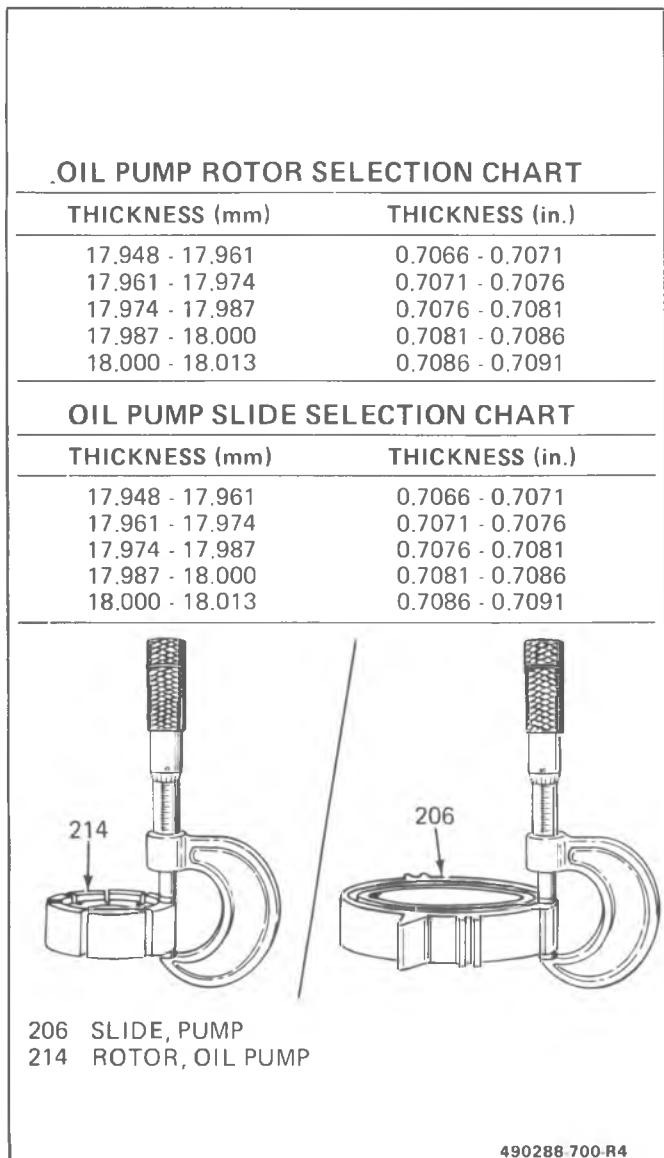

Figure 129 Oil Pump Rotor and Slide Selection
- There should be clearance between the reverse input clutch and the reaction sun gear shell. This clearance can be observed at the point shown in 700-R4 Figure 129. **Do not** try to shim the internal parts because of this clearance.